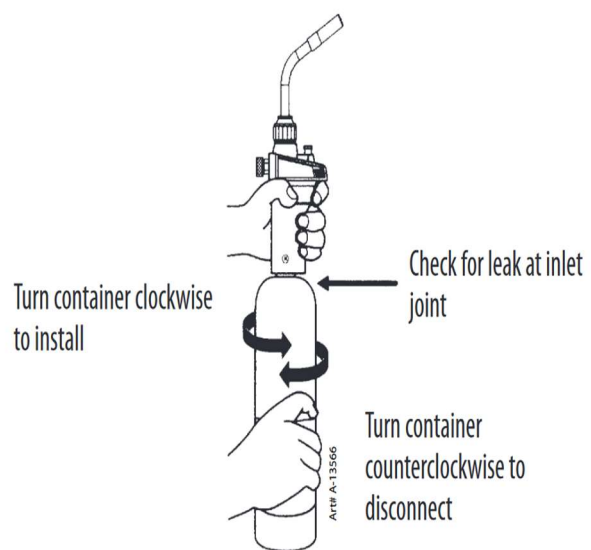

Figure 2: Assembly and Disassembly
2. Install a Propane, MAPP, or MAP//Pro container into the inlet connections of the torch. Hold torch and tank upright; install tank into torch inlet connection by turning tank counterclockwise until it is attached securely (Figure 2). Check connection for leaks.